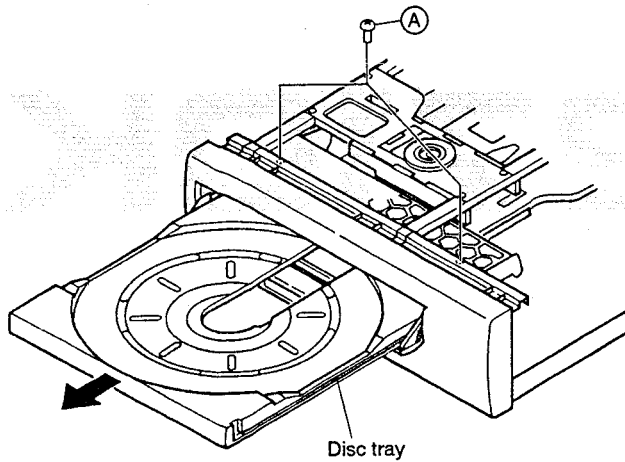
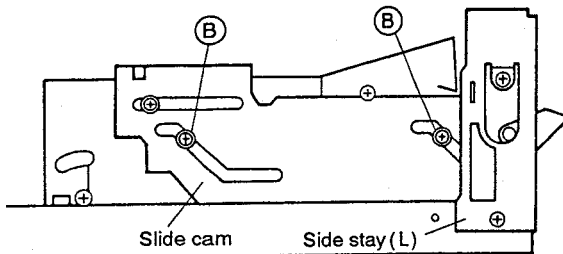

Fig. 1
Fig. 2
- ① Remove two screws (A) for tray stopper. (Fig. 1)
- ② Remove the front panel. (by loosening three screws at the top side and a fixing screw of the earth lead.)
- ③ Remove two fixing screws from the slide cam on the left side. (Fig.2)
- ③ Insert so that the first tooth of the straight gear on the rear of the disc tray meshes with the chipped gear teeth of the roller plate assembly.
- ④ Tighten two screws ㉕ for disc tray stopper. (Fig.1)
- ① Insert a screwdriver into the chassis hole near a strain relief through the back of the base chassis and remove the strain relief stop ring.